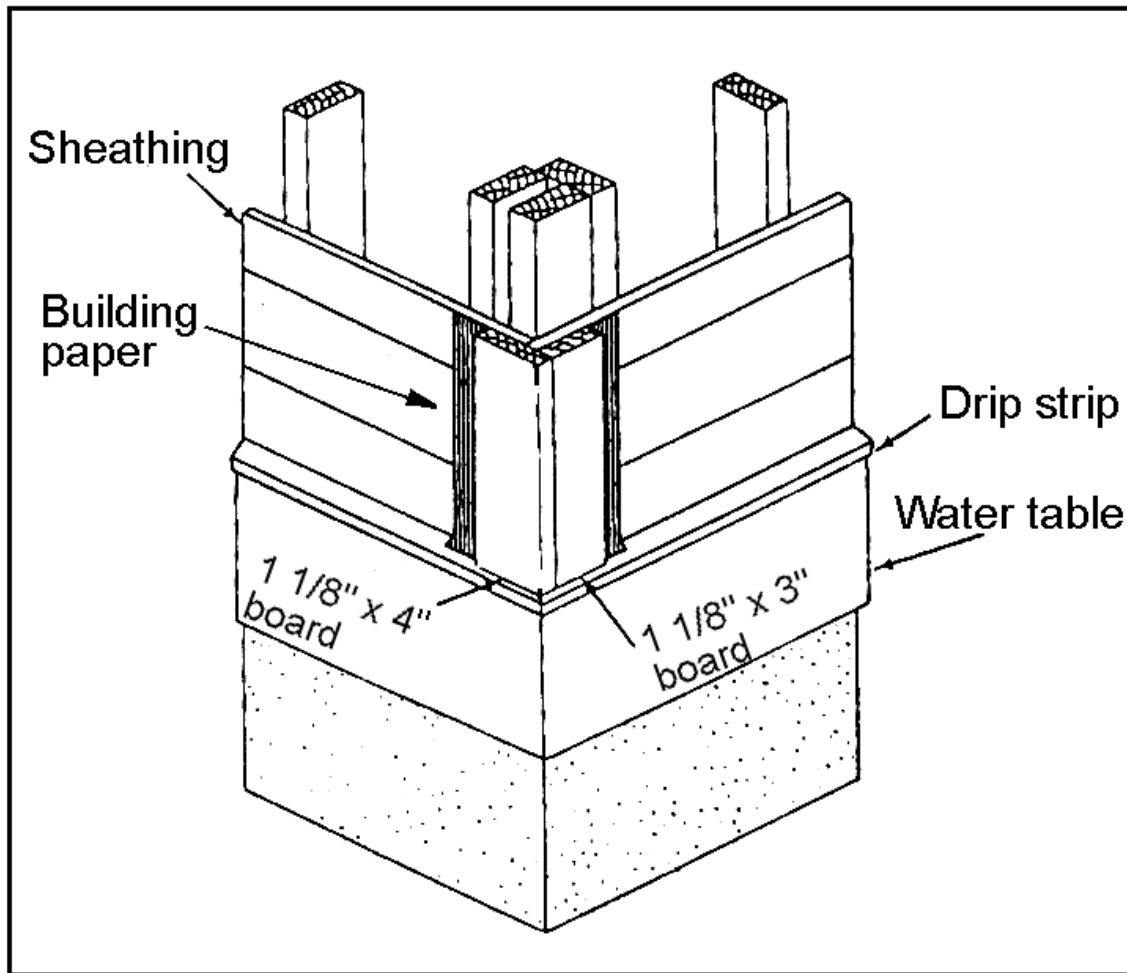

Figure 051-236-1201-3
- Install flush along the outside of the building corner with 16d finish nails spaced about 12 to 18 inches on center (Figure 051-236-1201-3).